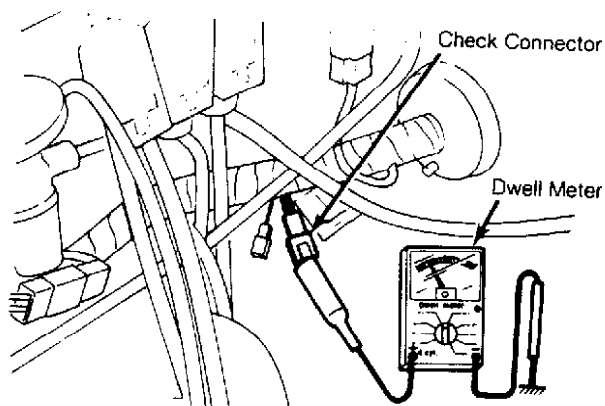

Fig. 12: B2200 Carbureted Connecting Meter to Mixture Check Connector
2) Install air cleaner. Ensure idle compensator valve is closed. Warm engine to normal operating temperature. Connect dwell meter (on 4-cylinder setting) between ground and mixture check connector. See Fig. 12.